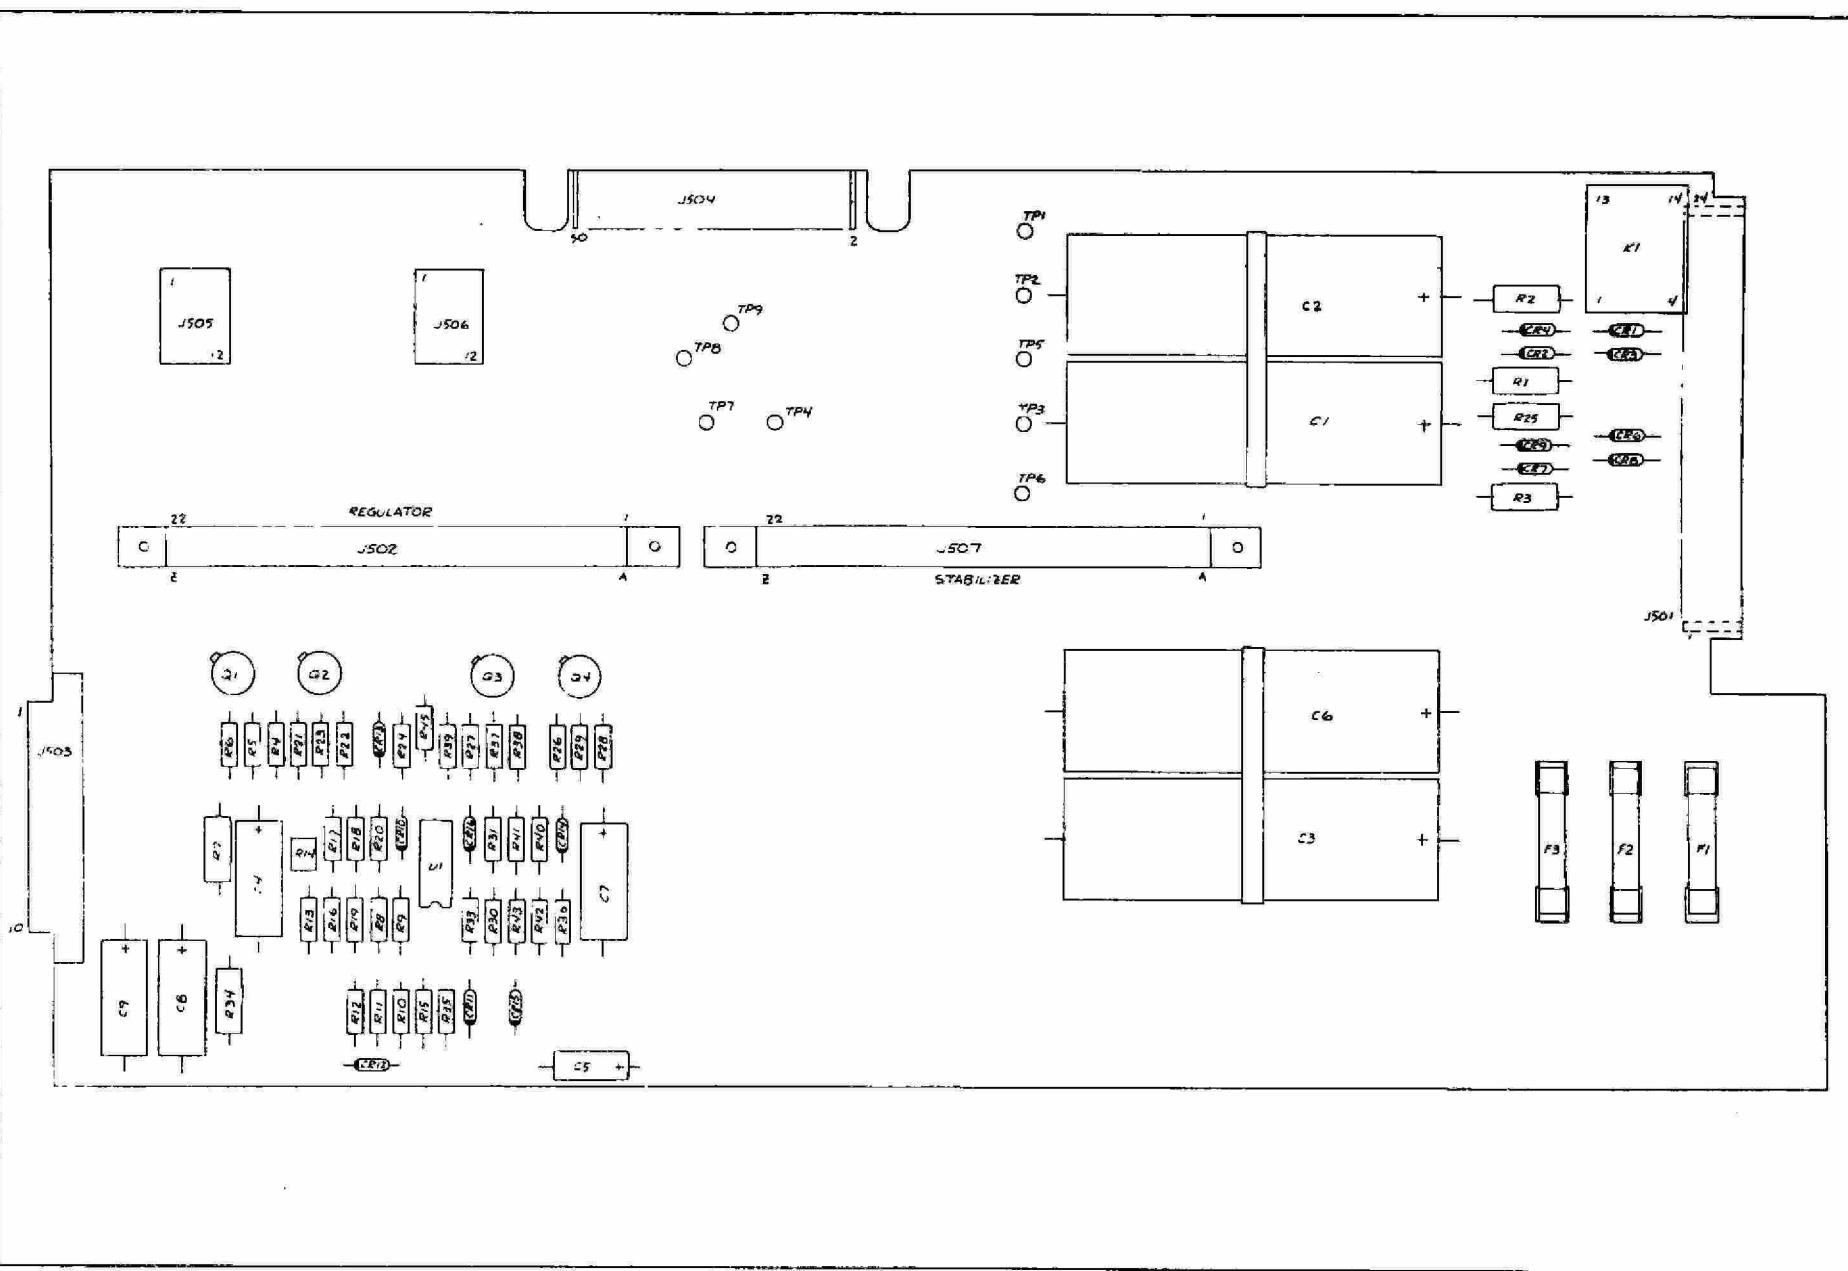

FIGURE 3-4. COMPONENT LOCATION
See Figure 3-4 for component location.
- d. The output is protected with a 17 volt crowbar P/N 78-590-200 on Serial 138 (December 1975) and higher. This crowbar is designated U2 and is located as shown in Figure 3-4.
- g. The output again is protected with a 17 volt crowbar P/N 78-590-200 on Serial 138 (December 1975) and higher. This crowbar is designated U3 and is located as shown in Figure 3-4.